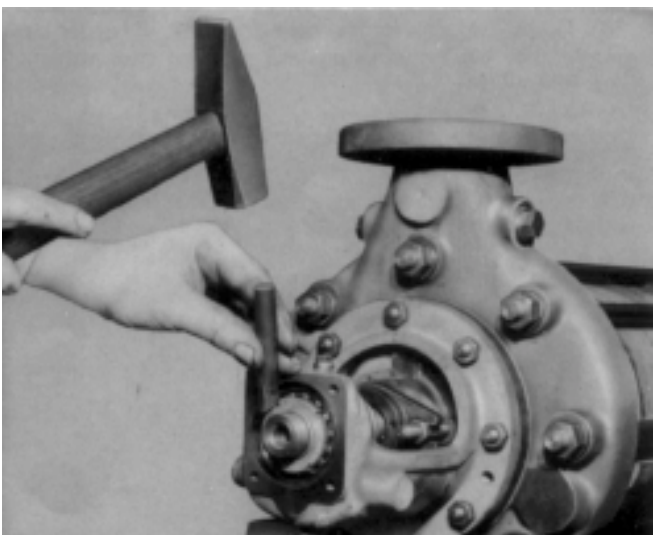

Fig. 28 Slackening the withdrawal nut.
4. Slacken withdrawal nut of adaptor sleeve (52.1) by a few turns. (see Fig. 28)